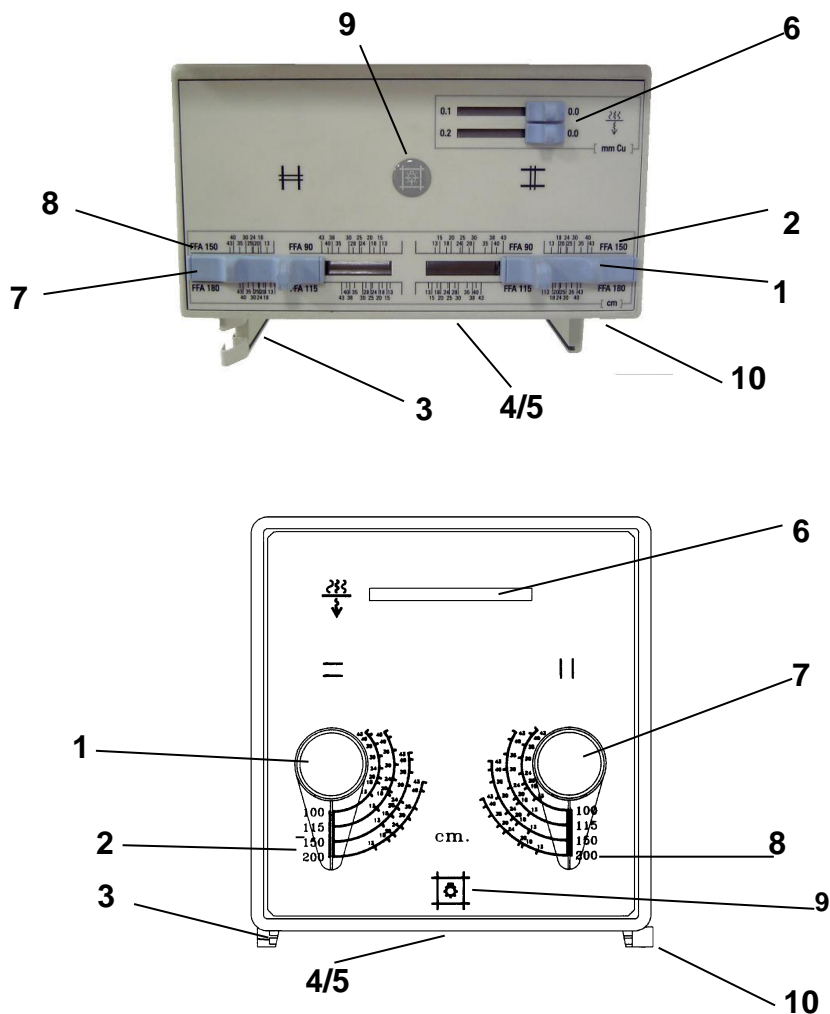

Figure 2-5 T
- Press the collimator light switch (Figure 2-5/9) to turn on the collimator light, and view the opening of the collimator shutters in both axes relative to the cassette size scales.
- Several FFD scale (Figure 2-5/1 and Figure 2-5/7) are provided to indicate the correct settings of the collimator adjustment controls for the collimator shutters for several cassette sizes so that the light beam and the X-ray field can be limited to the desired cassette size in both axes. Adjust cassette size as required using the collimator adjustment controls. Reduce shutter openings to object size for better image quality.
- Press the collimator light switch (Figure 2-5/9) to turn on the collimator light, and view the opening of the collimator shutters in both axes relative to the cassette and object size.
- Switch on by pressing the button (Figure 2-5/9) the visor light lamp.
- Set the X-ray unit to the desired height, and with the centering light the sighting device (Figure 2-5/4) align the X-ray unit at moving grid.
- Press the button (Figure 2-5/9) turn the light visor lamp to check the depth of the opening aperture blades for use cassette.
- Use the adjusters (Figure 2-5/1 and Figure 2-5/7) the low aperture blades on the size of the cassette. The adjustment is made on the scale (Figure 2-5/2 and Figure 2-5/8) for the corresponding source-image distance (SID). So that the light/radiation field is limited to the used cartridge size.